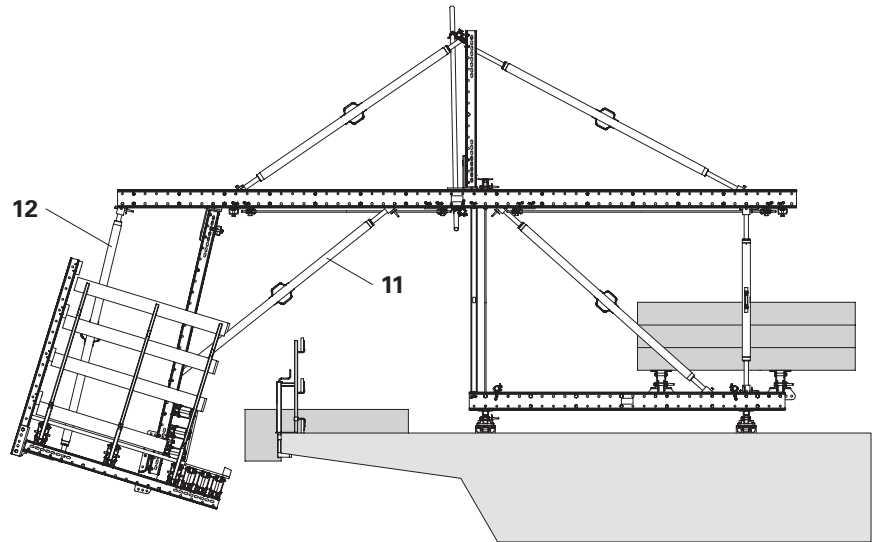

Fig. E1.01
2. Release the side formwork with Heavy-Duty Spindle SLS (**11**) and pivot the concreting platform outwards. (Fig. E1.01)